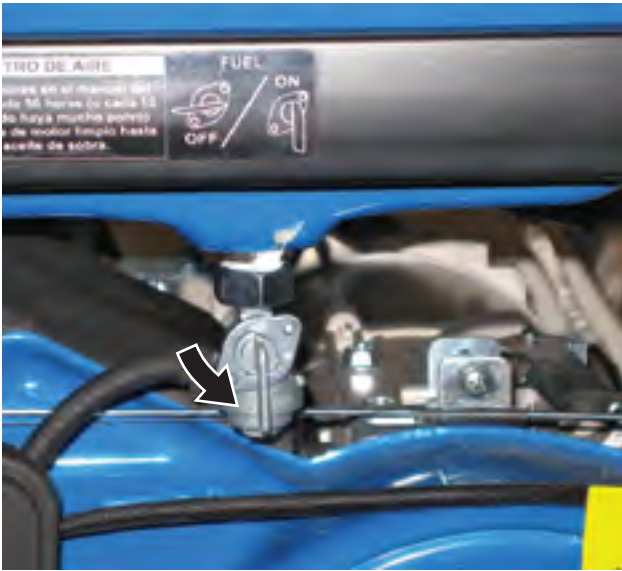

Figure 17 – Fuel Shutoff Valve in the **ON** Position
2. Move the fuel shutoff valve to the **ON** position (see Figure 17).